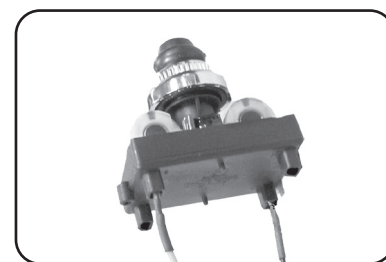

Fig. 38-2 Spark generator
8. Reinstall the top panel. See the TOP PANEL REMOVAL section. When connecting the igniter wires, the wires can be plugged into any terminal (Fig. 38-2).